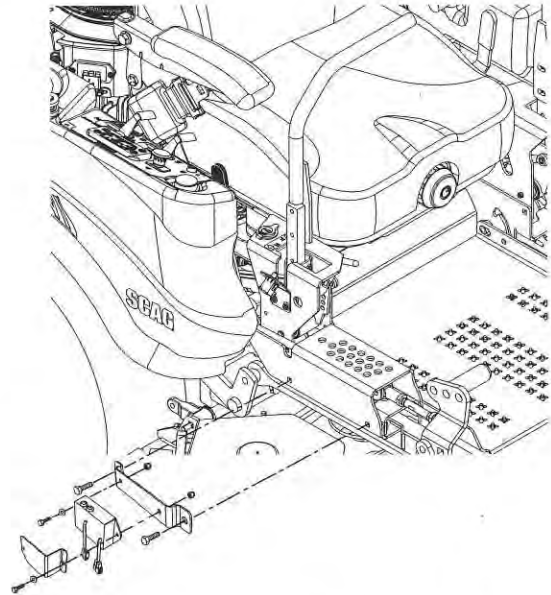

Figure 3-21. RF Module and Mounting Bracket Installation
19. Fasten the lower control linkage of the pivot assembly to the block off weldment using one (1) 5/16-18 x 1-1/2" bolt, spacer and 5/16" elastic locknut. See Figure 3-21.
2. Install the RF control module mounting bracket to the cutting height bracket using the 5/16-18 x 1 1/4" bolts removed in step 1. See Figure 3-21.
3. Secure the RF control module and guard to the mounting bracket using two (2) 1/4-20 x 1" bolts, two 1/4" flat washers, and two (2) 1/4" - 20 elastic stop nuts. See Figure 3-21.